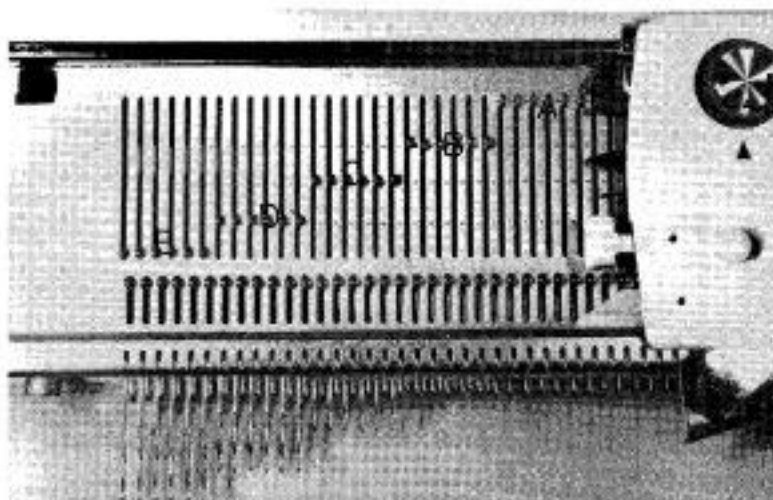

Fig. 78
Note: Positions of the needles herein referred to are positions of the butts of the needles. (Fig. 78)
This means that needles in any of the Positions (B), (C) or (D) — (see Fig. 78) — will knit, and further when setting the Return Cam Lever to No. 2, needles in Position (E) will also knit. (Fig. 83-B)